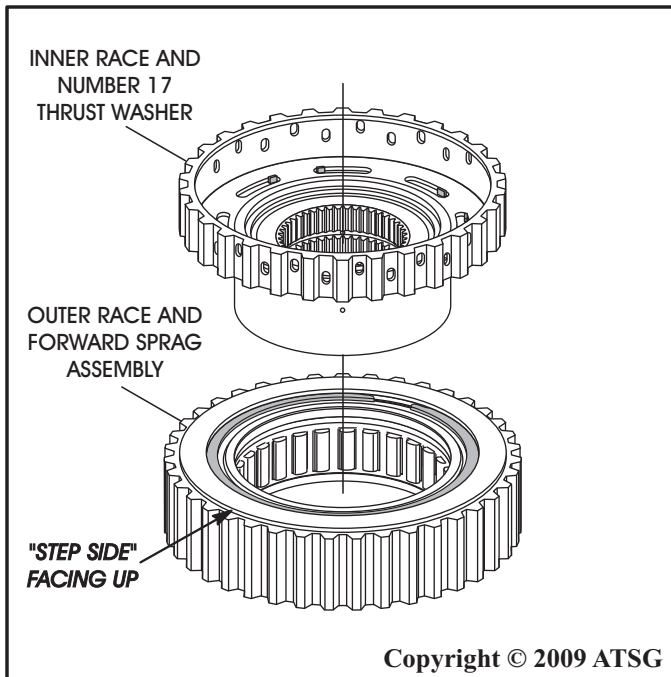

Figure 160
13. Install the inner race and number 17 thrust washer assembly into forward sprag assembly, by rotating counter-clockwise, as shown in Figure 160. Outer race and sprag assembly must have "step side" facing up, as shown.